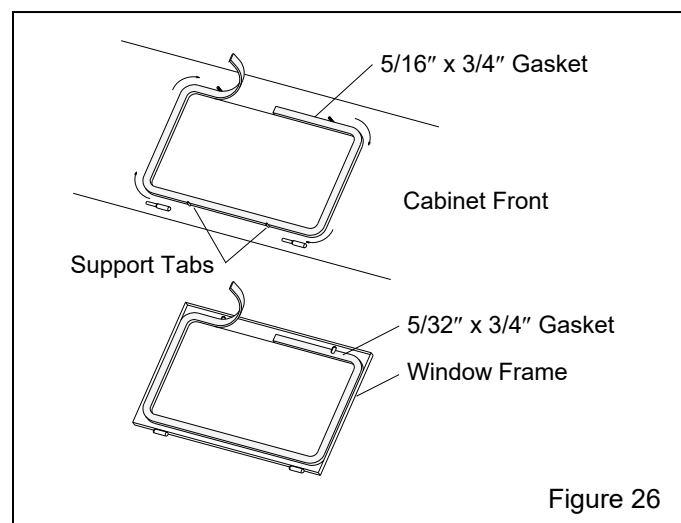

Figure 26
## 7.5 Window-Gasket Replacement – Figure 26
**7.5.4** Peel a short section of adhesive backing from the 5/16"-thick strip gasket and adhere the gasket to the center of the top edge of the window opening, as shown in Figure 26. Peel additional backing as needed and work the strip around the radius of each corner, pressing it firmly to bond. Trim the gasket to fit and compress the ends to seal.